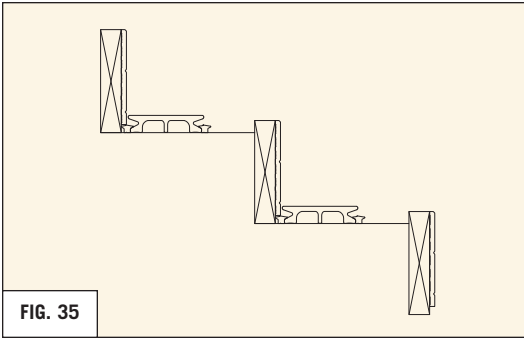

FIG. 35
- Attach cladding to the support block with three #8 x 1 - 5/8" deck screws along the top edge. These screws will be hidden after the bullnose is installed. Use only 1 - 5/8" screws or shorter to prevent the screws from coming out the other side of the support lumber and interfering with the bullnose. (REFER TO FIG. 35)